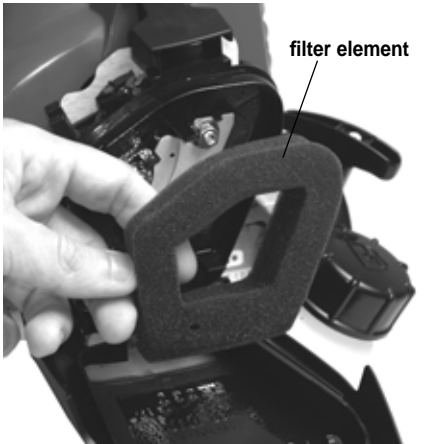

FIG. 29 – AIR FILTER CLEANING
13.2.2) Air filter cleaning (Ref. to Fig. 29)
- Press the latch tab (A) on the top of the air cleaner cover and remove the cover.